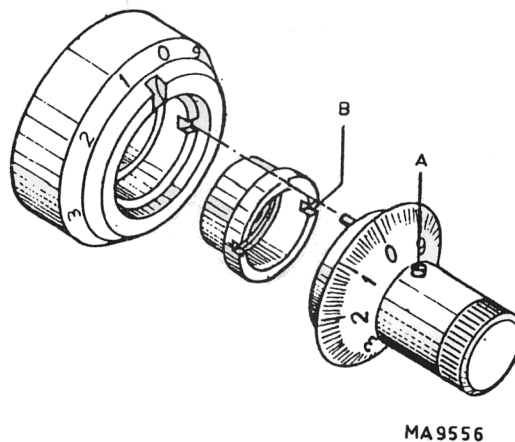

Fig. 3.23. Removing the delay-time multiplier knob
- The delay-time multiplier knob (Fig. 3.23) can be removed in the following way: